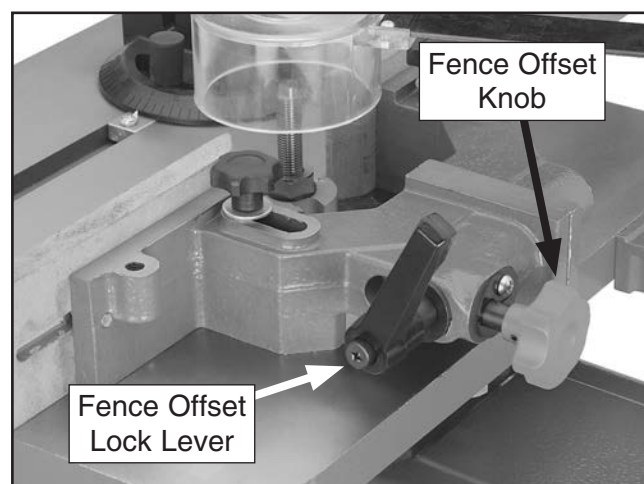

Figure 22. Controls for fence adjustments.
Each side of the fence is independently adjustable to compensate for different cutting thicknesses and special shaping applications. One turn of the adjustment knob (see **Figure 22**) moves the split fence approximately $\frac{3}{64}$ " (.040"). When removing material from the whole face of your workpiece, the outfeed fence should be adjusted to the proper offset to provide support for the workpiece as it passes over the cutter.
1. Loosen lock handle (see **Figure 22**).